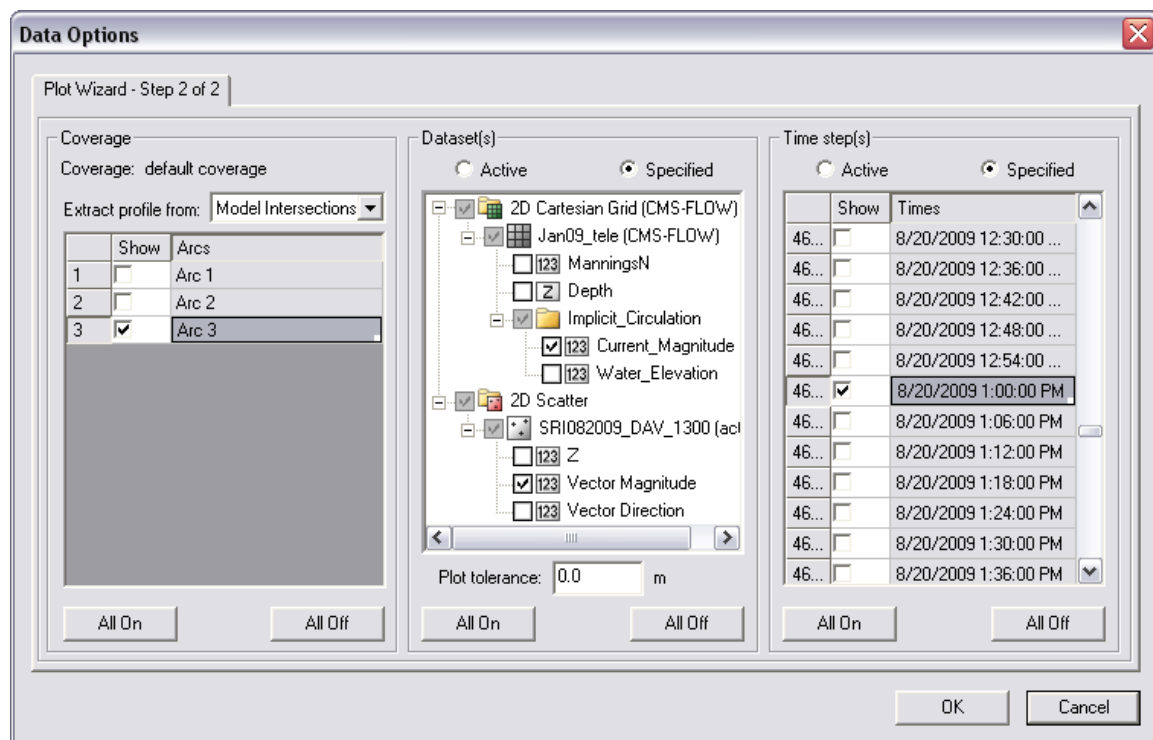

Figure 8.1.12. Plot Wizard data options for displaying measured and calculated data from an observation arc.
1. Following the above section, the current velocity file is displayed similar to Figure 8.1.12. Draw three observation arcs over each of the three transects.
2. To plot, select *Plot Wizard* from *Display*, and select an *Observation Profile*. In Step 2, select one of the arcs (uncheck others), and under *Extra Profile* select *Model Intersections*. Figure 8.1.12 illustrates everything selected for plotting the measured and calculated data for the specific time the transect was actually measured.